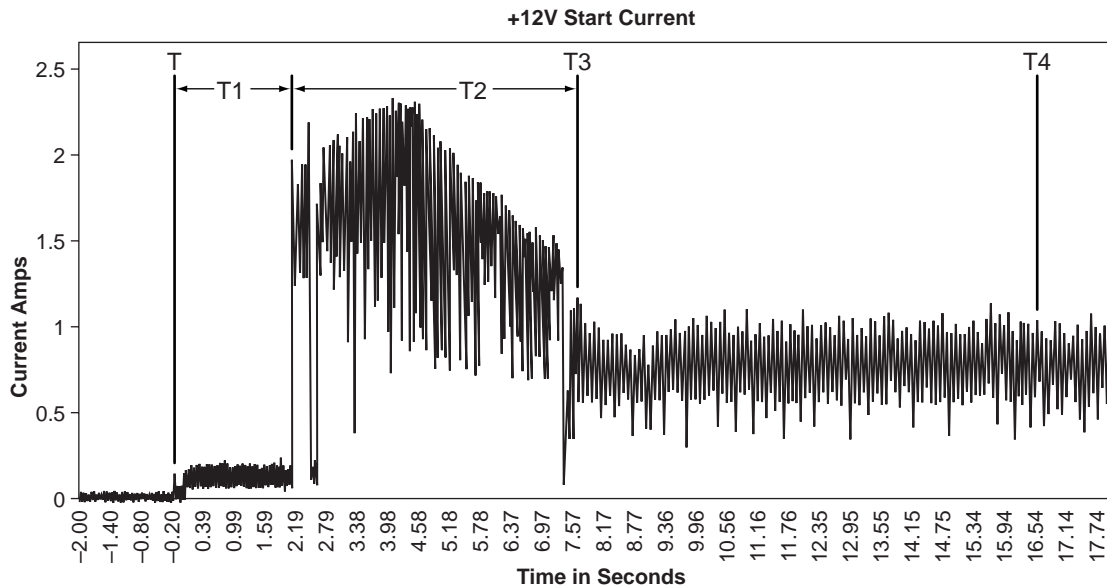

Figure 3a. Typical Medalist Pro family drive +12 V current profile
- [3] See +12 V current profile in Figure 3a.
Figure 3a identifies the drive +5 V and +12 V current profile. The current during the various times is as shown: